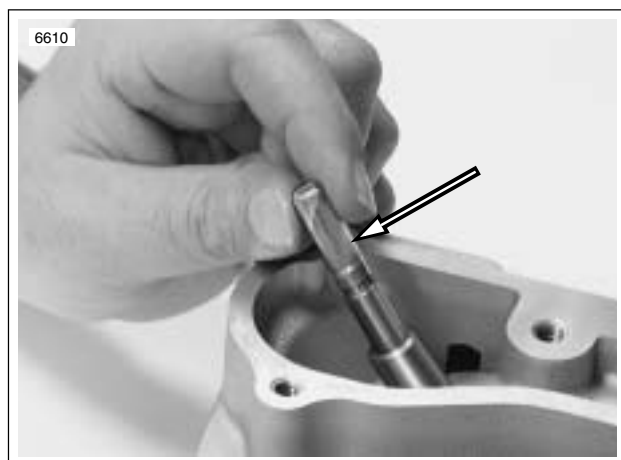

Figure 3-79. Valve Guide Seal Protector Sleeve
6. See Figure 3-79. Place a protective sleeve over the valve stem keeper groove.